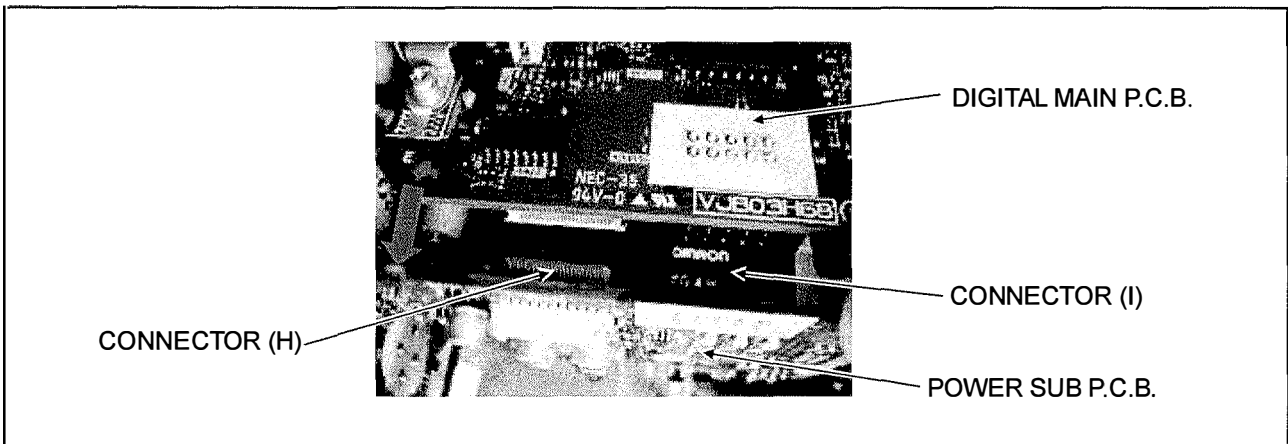

Figure 7-5
7. Disconnect the connector (H) and (I) combined with the DIGITAL MAIN P.C.B. as shown in figure 7-5, and remove the POWER SUB P.C.B..